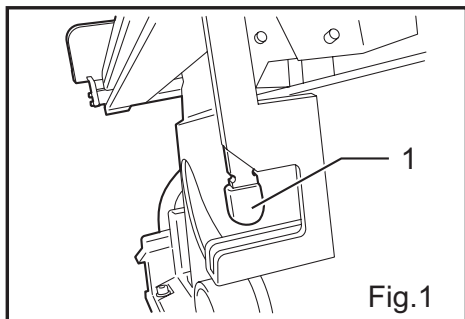
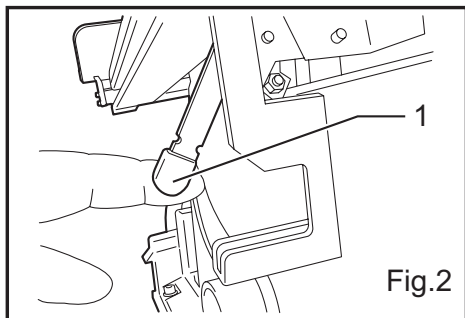
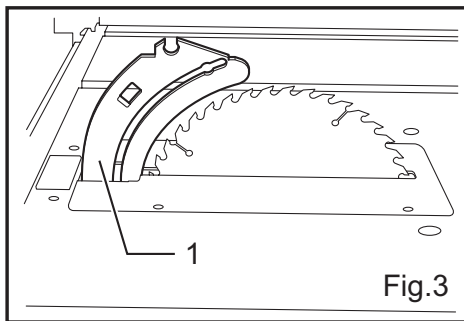

Fig.1
Fig.2
Fig.3
1. Locate the riving knife/spreader release lever located at the back of the table saw as shown in figure 1.
2. Pull the riving knife/spreader release lever until it stops as shown in figure 2. This action will release the riving knife/spreader for positioning.
The riving knife/spreader unit can be made ready for the attachment of the guard assembly and side guards by positioning it at the maximum adjustable height as shown in Fig 3. In this position the unit is raised above the blade so that the guard assembly can be installed and made operational. Make sure that the release lever located at the back of the table saw has returned to the position as shown in figure 1. Before mounting the guard be sure to check that the riving knife/spreader unit is in a locked position by pulling up and pushing down on the unit to ensure there is no movement.
The riving knife/spreader unit can be positioned and locked at a height setting that is just below the top of the saw blade as shown in figure 4. The unit would be used in this position for non-through cutting operations with the guard removed such as rabbets and groove cutting. Make sure that the release lever located at the back of the table saw has returned to the position as shown in figure 1. Before operating the tool be sure to check that the riving knife/spreader unit is in a locked position by pulling up and pushing down on the unit to ensure there is no movement
1. Release the locking lever pin of the blade guard by lifting the locking lever tab as shown in figure 1.
2. For ease of guard assembly installation adjust the table saw for maximum depth of cut. With the locking lever released as shown in Figure 1, position the locking lever pin center groove into the notch provided on the riving knife/spreader unit as shown in figure 2.
3. Once the locking lever pin is placed into the riving knife/spreader notch it is to be locked into position by pushing the tab of the pin's locking lever into the locked position as shown in Figure 3. Once the pin's locking lever is in the locked position check to ensure that the guard assembly is properly attached to the riving knife/spreader assembly by pulling up on the guard assembly and making sure it does not move its position.
1. Release the locking lever pin of the side guard by lifting the locking lever tab as shown in figure 1.
2. With the locking lever pin released position the pin into the notch provided on the blade guard assembly as shown in figure 2.
3. Once the locking lever pin is placed into the notch provided on the blade guard assembly it is to be locked into position by pushing the tab of the pin's locking lever into the locked position as shown in Figure 3.